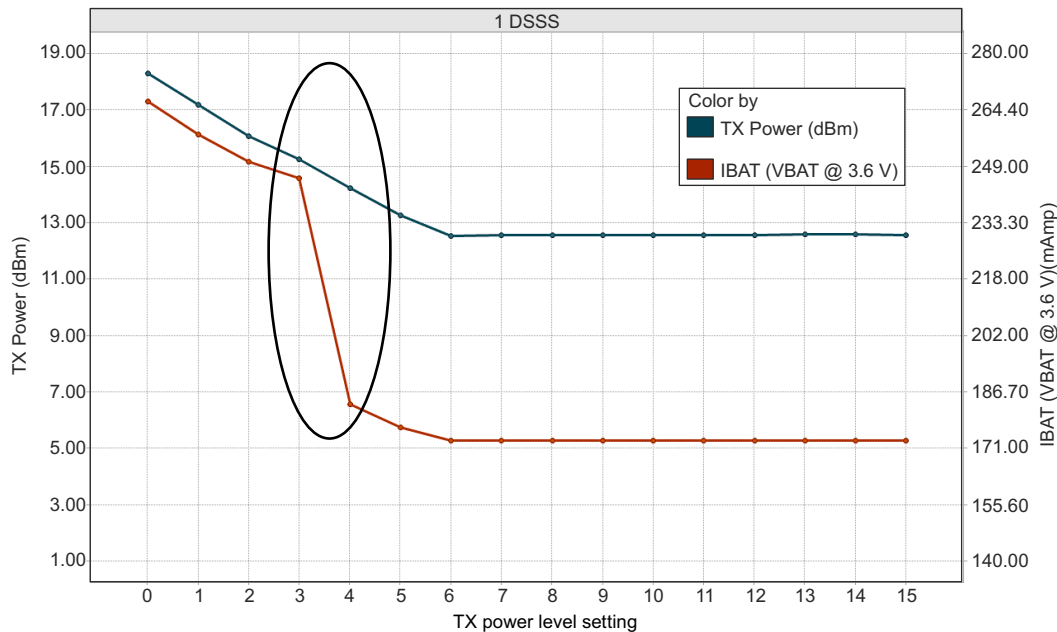
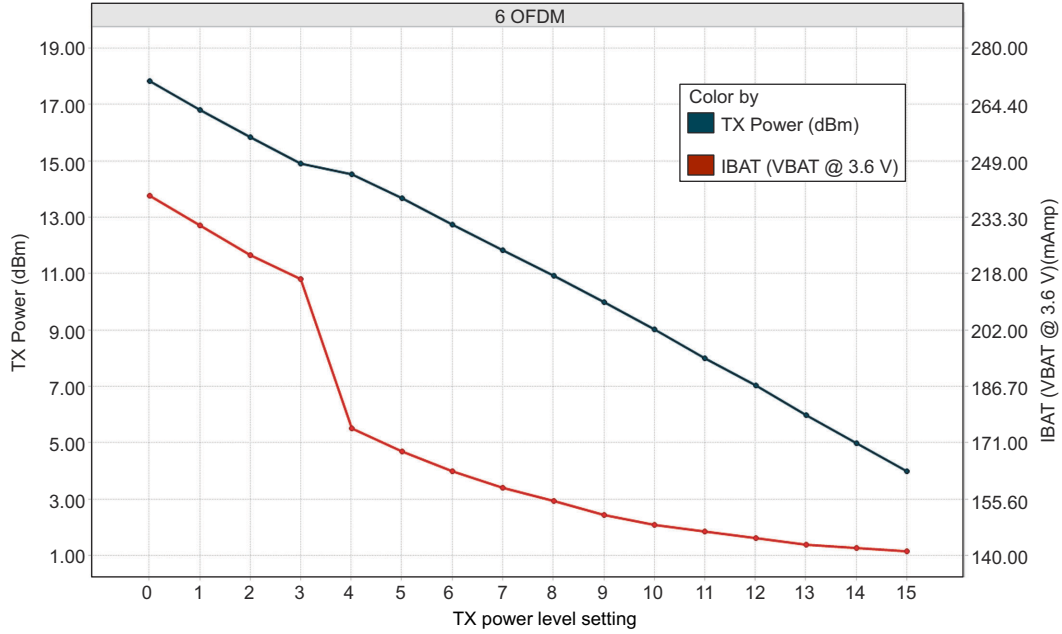
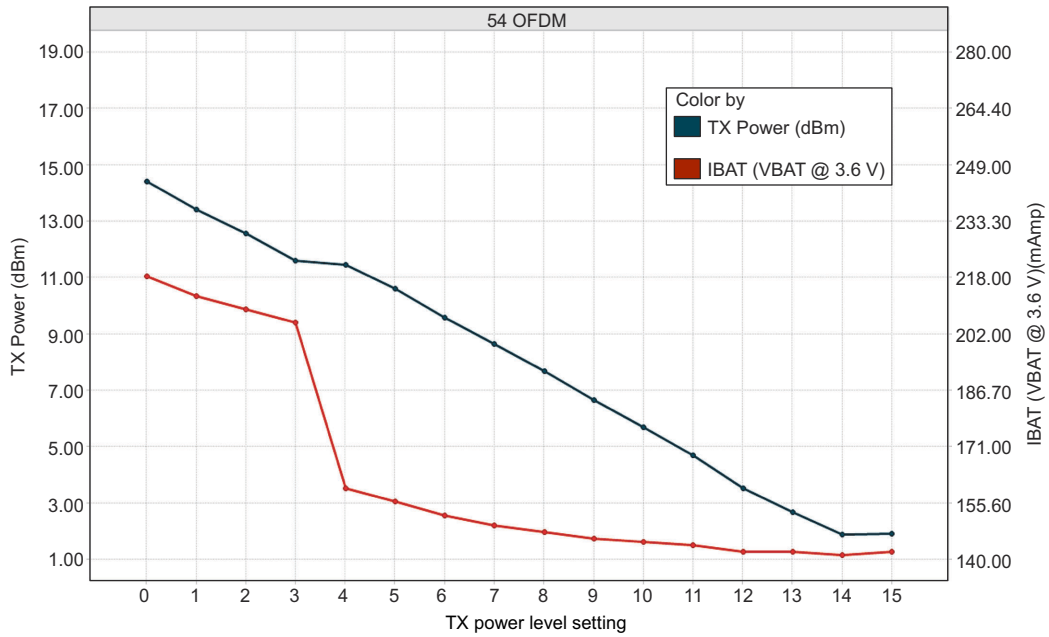

Figure 8-1. TX Power and IBAT vs TX Power Level Settings (1 DSSS)
Figure 8-2. TX Power and IBAT vs TX Power Level Settings (6 OFDM)
Figure 8-3. TX Power and IBAT vs TX Power Level Settings (54 OFDM)
- (1) TX power level = 0 implies maximum power (see Figure 8-2, Figure 8-2, and Figure 8-3). TX power level = 4 implies output power backed off approximately 4 dB.
- (2) LPDS current does not include the external serial flash. The CC3235MODx and CC3235MODAx can be configured to retain 0 KB, 64 KB, 128 KB, 192 KB, or 256 KB of SRAM in LPDS. Each 64-KB block of MCU retained SRAM increases LPDS current by 4 μA.
- (3) DTIM = 1
- (4) The complete calibration can take up to 17 mJ of energy from the battery over a period of 24 ms. Calibration is performed sparingly, typically when coming out of HIBERNATE and only if temperature has changed by more than 20°C. The calibration event can be controlled by a configuration file in the serial flash.
- (5) Typical numbers assume a VSWR of 1.5:1.
Figure 8-1, Figure 8-2, and Figure 8-3 show TX power and IBAT versus TX power level settings for the CC3235MODS module at modulations of 1 DSSS, 6 OFDM, and 54 OFDM, respectively. For the CC3235MODSF module, the IBAT current has an increase of approximately 10 mA to 15 mA depending on the transmitted rate. The TX power level remains the same.⁵
In Figure 8-1, the area enclosed in the circle represents a significant reduction in current during transition from TX power level 3 to level 4. In the case of lower range requirements (14-dBm output power), TI recommends using TX power level 4 to reduce the current.